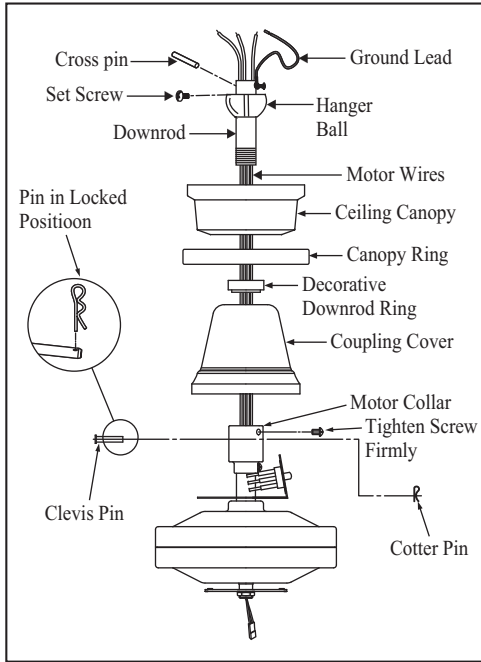

Figure 8
6. Carefully feed the motor wires up through the downrod. Thread the downrod into the collar. Align the holes and replace the clevis pin and cotter pin. Tighten the two collar setscrews. (Figure 8)
7. Slip coupling cover, decorative downrod ring, canopy ring, and canopy onto the downrod. Carefully reinstall the hanger ball onto the downrod and reinstall the ground lead onto the downrod, being sure that the cross pin is in the correct position, the setscrew is tightened and wires are not twisted. (Figure 8)
THE TAB IN THE RING MUST REST IN THE GROOVE OF THE HANGER BALL AS FIGURE 8. FAILURE TO PROPERLY SEAT THE TAB IN THE GROOVE COULD CAUSE DAMAGE TO WIRING.